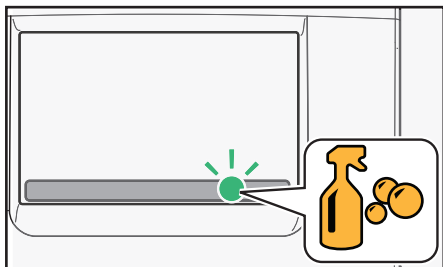

Fig. 5.2 - Cleaning icon
Run the cleaning program when the cleaning icon appears in the display (fig. 5.2).
- Tap on the cleaning icon, which is shown on the touch screen, when flushing is due (fig. 5.2).
- Tap on the cleaning icon, which is shown on the touch screen, when complete cleaning is due (fig. 5.2).